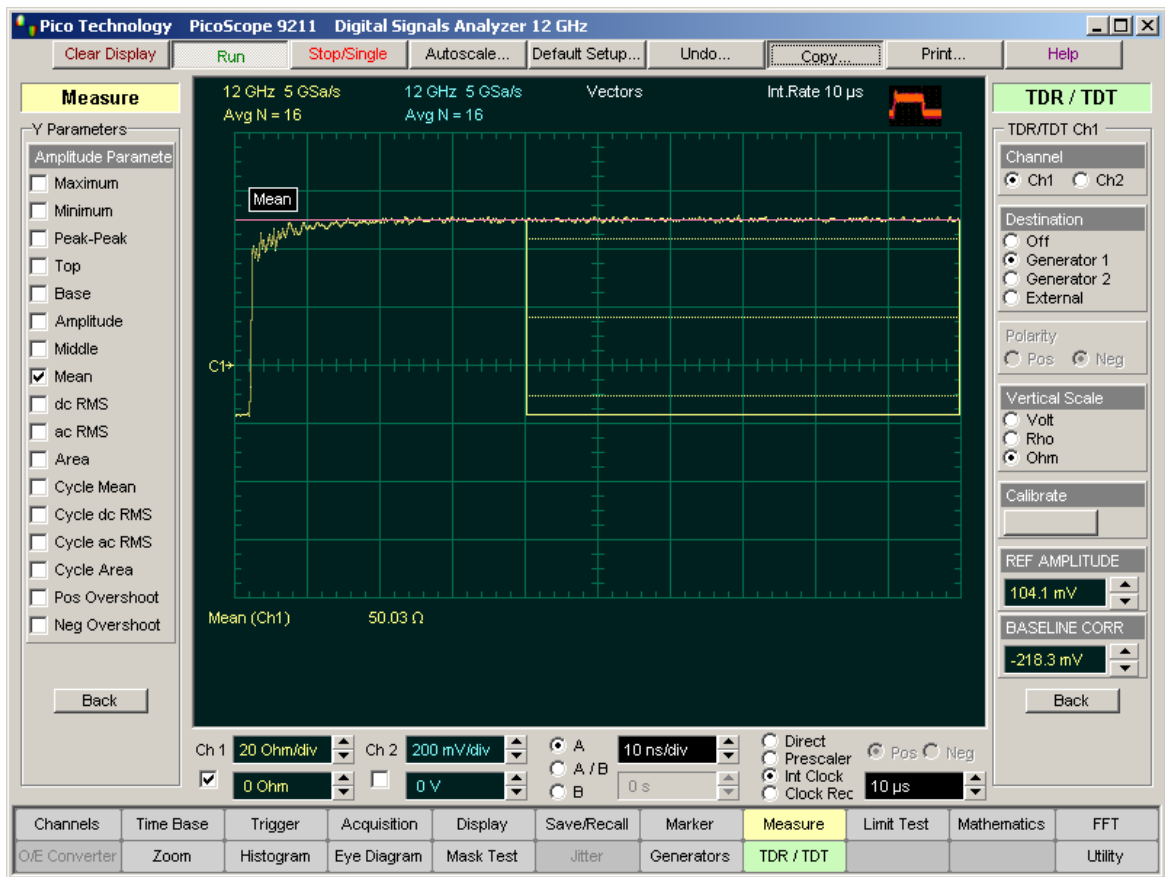

Figure 2
2. Click Ohm in the Vertical Scale menu. See Figure 2.
Fig. 2 shows that the ohm value is near 50 ohms when the transmission line is terminated in 50 ohms. The Mean measurement shows 50.03 ohm.